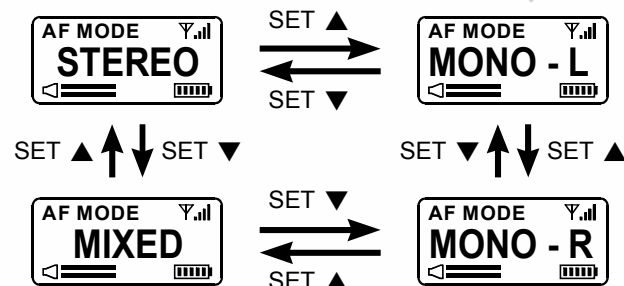

Fig. 12
6. AF MODE, Fig. 12:
- (A) When SET ▲ or SET ▼ button is pressed, the current parameter blinks to denote it is ready to accept change.
- (B) Press and release SET ▲ or SET ▼ button to change setting of AF MODE. 5 seconds later or MODE button is pressed, blinking stops and the setting is automatically saved.
- (C) AF MODE Settings: